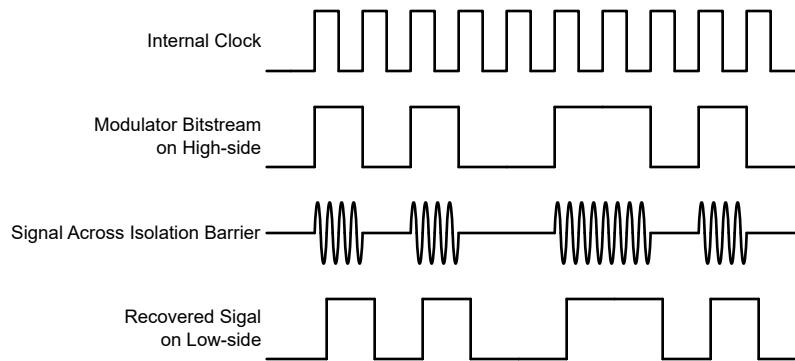

Figure 7-1. OOK-Based Modulation Scheme
As shown in Figure 7-1, the AMC0381D uses an on-off keying (OOK) modulation scheme to transmit the modulator output bitstream across the SiO_2 -based isolation barrier. The transmit driver (TX) is illustrated in the Functional Block Diagram. TX transmits an internally generated, high-frequency carrier across the isolation barrier to represent a digital one. However, TX does not send a signal to represent a digital zero. The nominal frequency of the carrier used inside the AMC0381D is 480MHz.